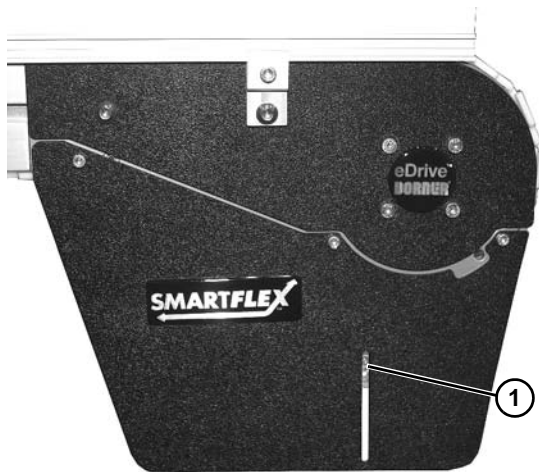

Figure 165
Before inserting belt rod to connect belt ends, be certain that the slack on belt is showing in slotted area (**Figure 165, item 1**) on convey or drive end.